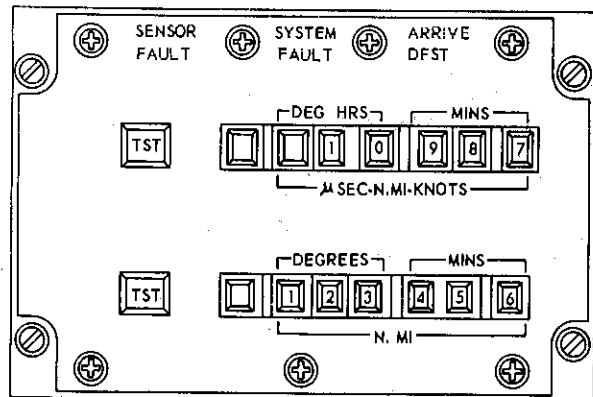

Figure 4-72. Display and Test Parameters
4. Rotate SENSOR switch to TEST. Observe display indicator. Proper operation is indicated in figure 4-72.